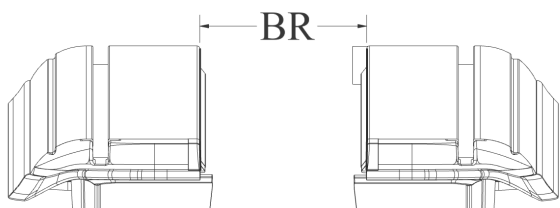
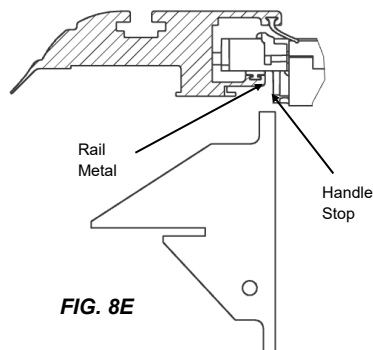

FIG. 8C
FIG. 8E
Finally, check for proper spacing by pushing the handle all the way to one side and attempting to insert the BR Gauge in between the rail metal and the handle stop at the opposite side (Fig 8E). You must do this at the canister and tailgate end of the rails. You can also check the between the rail measurement at the canister and the tailgate end of the rails. The measurements should be equal to or less than those in Figure 8C. The Clamp Extensions have been pre-installed with brackets and shims to achieve the proper Between the Rail dimension (BR) when placed on an average factory truck bed. However, not all truck beds are average dimensionally and some have optional plastic caps or over the rail spray-in liners.